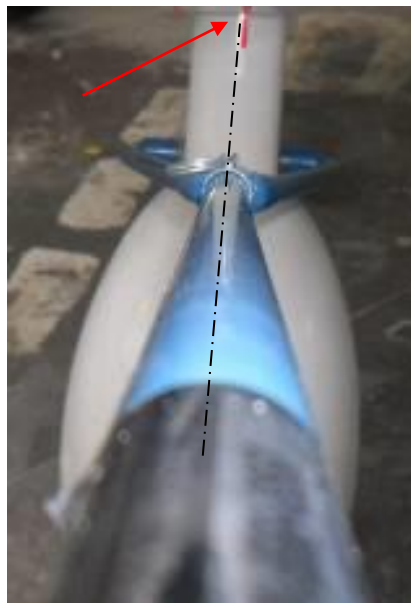

Fig. 09-00-3
Marking "Max Turn Limit" (item 19) on the nose wheel fairing marks the center reference line of the nose wheel and provides the steering position. This marking is in line with the tow bar towing direction, when attached (Fig. 09-00-3).